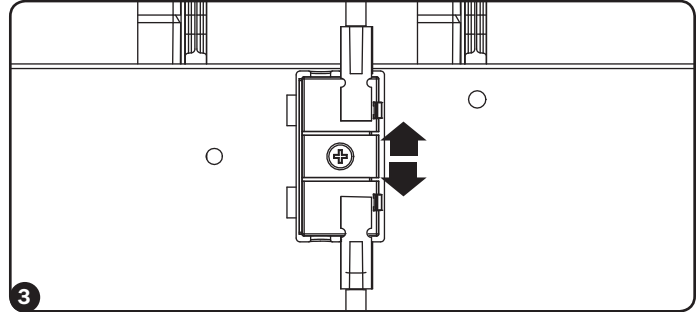
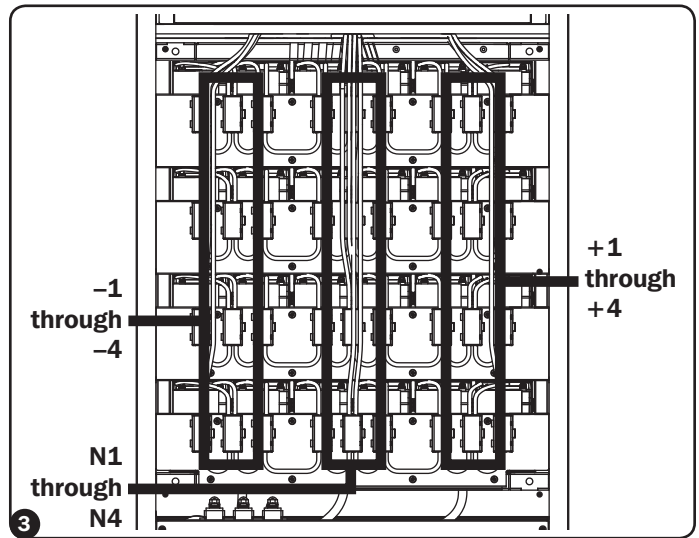

Figure 3-1
Figure 3-2
- 3 Open the terminal housings covering the internal battery cable terminals. Disconnect the terminals (Figure 3-1). Refer to Figure 3-2 for the entire battery installation.
- 7 In the reverse order of step 3 (4,3,2,1), reconnect the battery terminals. Refer to Figure 3-2 for the entire battery installation.